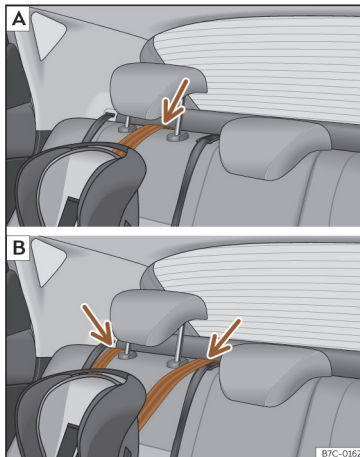

Fig. 27 Rear seats: adjustment and assembly according to the Top Tether belt. »
- Place the belt under the head restraint of the back seat»» Fig. 27 (depending on the instructions of the chair itself, lift or remove the head restraint if necessary).